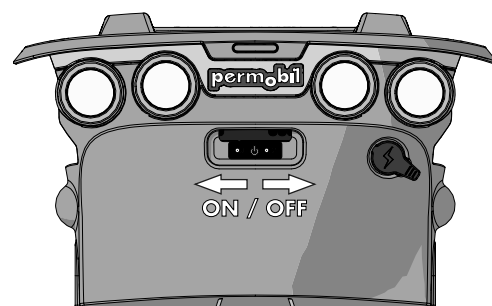

Figure 493. Main circuit breaker.
21. Switch the main circuit breaker to On; see fig. 493.